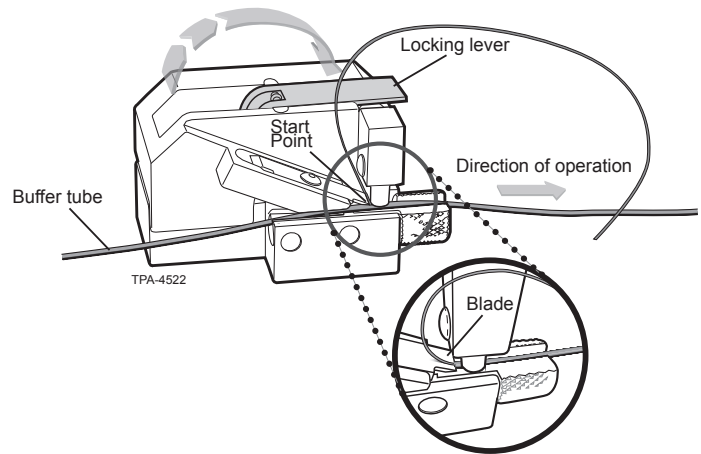

Figure 22
- d. Pull the tool as shown in Figure 22 to shave off the top of the tube and gain access to the fibers (refer to the marks on the buffer tube as required).